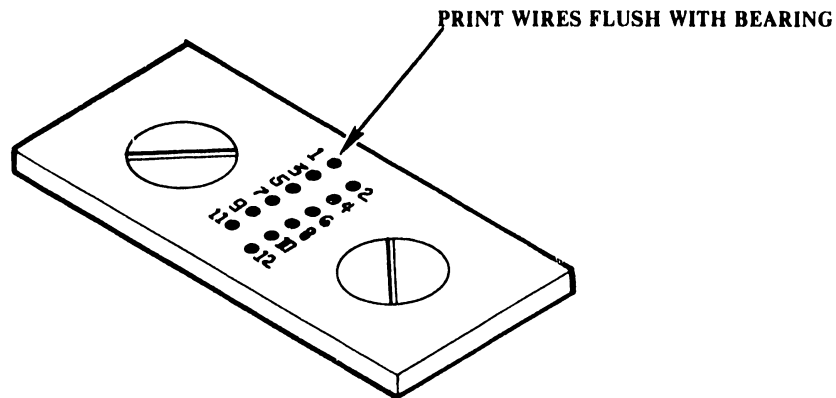

FIGURE 6-12 HEAD BEARING
- 3) With a jewelers loupe (magnifier) look at the head bearing (Figure 6-12). All the solenoid wires must be flush with the bearing surface.